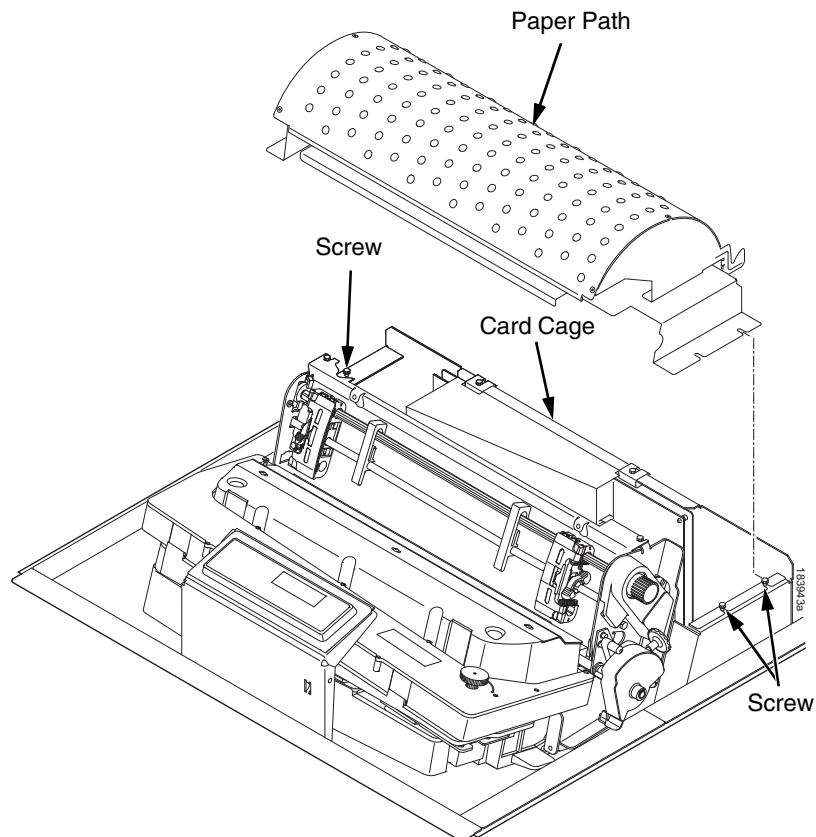

Figure 32. The Paper Path
2. Loosen—do not remove—the three screws that secure the paper path to the card cage. (See Figure 32.)
1. Position the paper path offset slightly to the left on the card cage with the keyway cutouts over the three loosened screws. (See Figure 32.)
3. Tighten the screws securing the paper path to the card cage. (See Figure 32.)